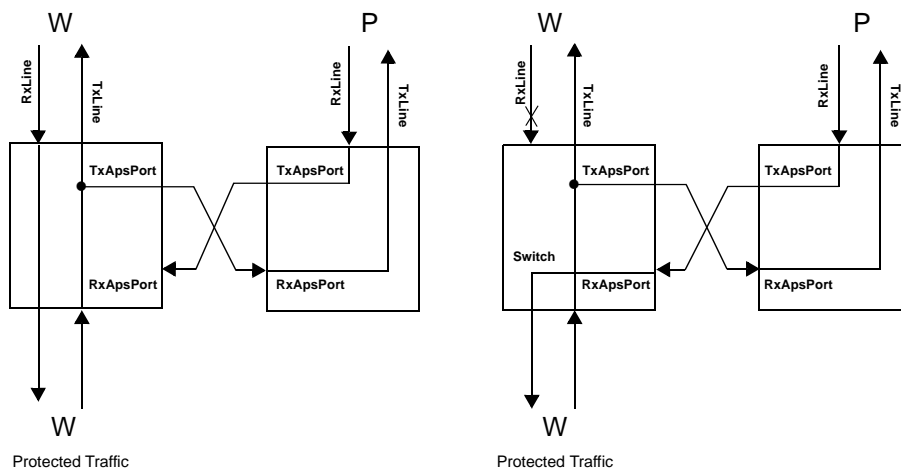

Figure 28. STM-4/OC-12, 1+1 APS
Figure 28 shows an example of a 1+1 APS protection architecture in STM-4/OC-12 mode. One PHAST-12N device handles the Worker line (W) while a second PHAST-12N handles the Protection line (P). Both devices are interconnected through the full bandwidth of APS Port interface. The cross connects of both devices setup a permanent bridge from the Worker Transmit line to the Protection Transmit line over one of the APS Port interfaces. The received protection payload is available on the other APS Port interface.